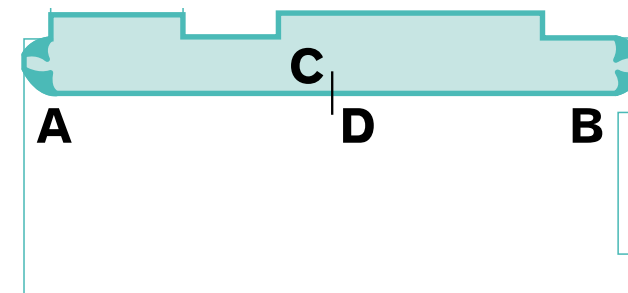

Figure 13 Lining up the first sheet
- > When satisfied that the fit on the first edge is correct, use a pencil to trace the opposite edge onto the subfloor (line A-B in Fig 13).
- > In the centre of the room, draw a line on both the sheet and subfloor square to the main axis of the sheet (line C-D in Fig 13).